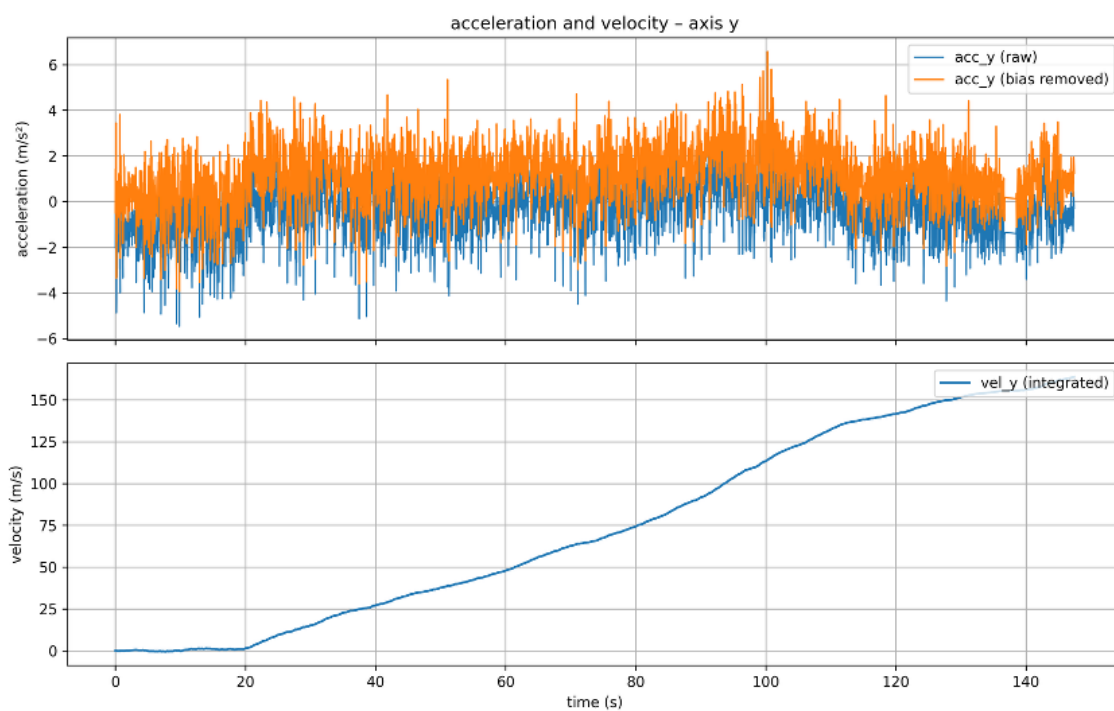

Figure 6: Acceleration and velocity in Y-axis
**Task:** Plot acceleration in Y and velocity in Y (integrate once) vs. time as two subplots (Fig. 6).